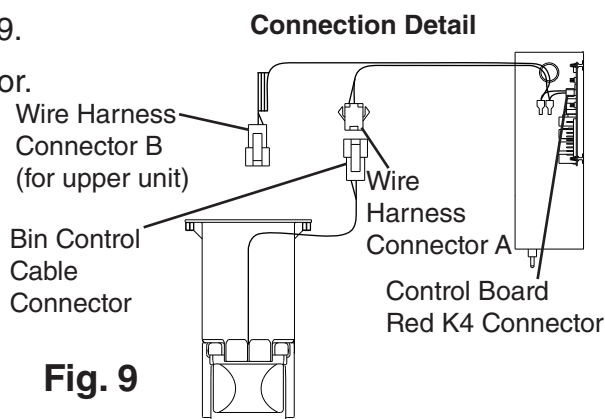

Fig. 9
- 4) Check BC wire harness connections. See Fig. 9.